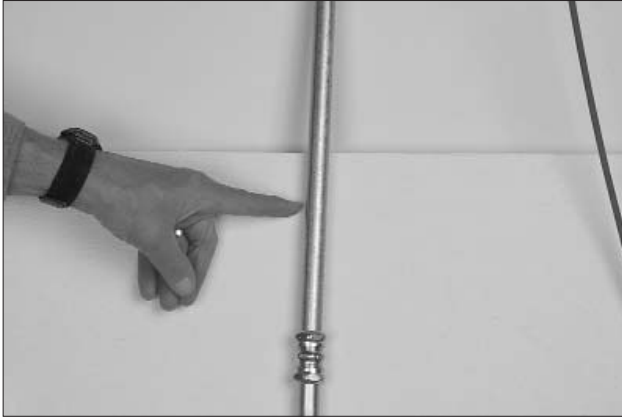

FIGURE 83
4. Install the conduit required to get above the ceiling. See Figure 83.